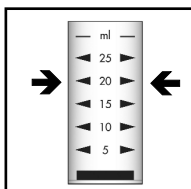

Figure 1
1. Rinse the sample cup with the sample to be tested, then fill it to the 20 mL mark with the sample (fig. 1).